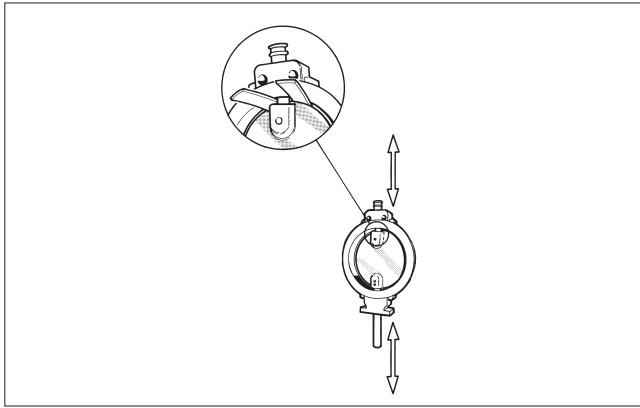

Fig. 14 Protecting the disc during disassembly and assembly
- Drill the holes carefully to the centre of the pins (14). Choose a drill 0.2-0.5 mm smaller than the diameter of the pin.
- Dismantle the gland packing including anti-extrusion ring (22), when applicable, according to Section 5.3.
- Detach the screws (26) and the blind flange (10) and remove the gasket (18).
- Place rubber strips or other protection between the disc edge and the body and remove the shafts (see Fig. 14).
- Place the disc horizontally on a surface so that the flat side of the disc lays against the surface. Lift the body around the disc so that the shaft bores are aligned with the bores in the disc. Protect the disc (see Fig. 14).